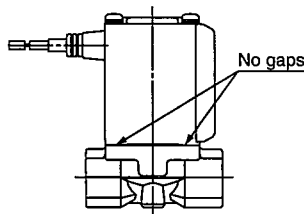
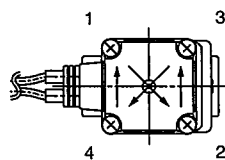

Fig.1
Fig.2
- Push the coil assembly against the body and tighten the screws two or more rounds diagonally (Fig. 2) in the status that there are no gaps between the coil assembly and body (Fig. 1).
- \* After tightening the screws, make sure that there are no gaps between the coil and body (Fig. 1).